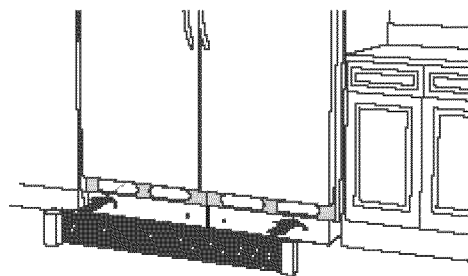

Figure 18
- Attach metal toe grill (F) using the screws saved during removal of the plastic grill panel(s). It may help to **open door of each unit** to aid alignment of screws. Run screws through the left-most and right-most grill holes and tighten until slightly snug. **Adjust so the top of toe grill is parallel with the bottom of both door(s).** For a dual unit installation, install **two inner screws**. Tighten all screws. See Figure 18.